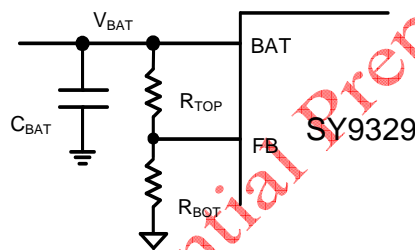

Fig. 4. Schematic of  $V_{BAT}$  under Sink Mode
Under sink mode, the VBUS pin is connected to the power input, the BAT pin is the power output and the FB pin is the feedback input. The output voltage  $V_{BAT}$  is programmed by external voltage divider (see Fig. 4) with the 1V internal voltage reference as given in equation (1)